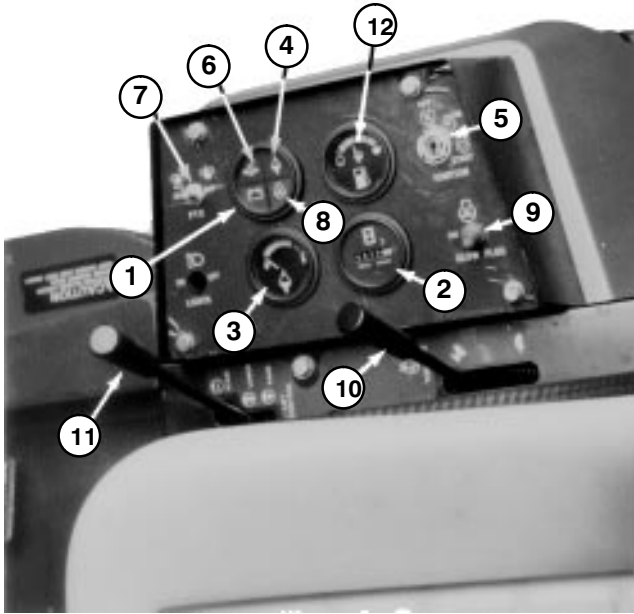

Figure 24
Amp Light (Fig. 24) — The amp light should be off when engine is running. If it is on, the charging system should be checked and repaired if necessary.
Hour Meter (Fig. 24) — Accumulated engine operating time registers on the hour meter.
Temperature Gauge and High Temperature Light (Fig. 24) — The coolant temperature gauge registers the coolant temperature in the system. If the temperature gets too high the engine will automatically shut off and the High Temperature Shutoff Light will light. When this happens, turn the ignition key off, check radiator for debris, check the fan belt and check the expansion tank for proper coolant level. The high temperature shutoff will automatically reset when the coolant temperature has reached a safe level.
Low Oil Pressure Light (Fig. 24) — If engine oil pressure falls below a safe level, the light glows. Stop engine and repair before resuming operation.
PTO Switch (Fig. 24) — Pull up on sleeve on toggle switch handle and move handle to ON to ENGAGE electric PTO clutch. Pull up on sleeve and move handle to OFF to DISENGAGE electric PTO clutch. The only time the PTO switch should be in the ENGAGE position is when the implement is down in operating position and ready to begin operation.
Ignition Key Switch (Fig. 24) — The ignition switch, which is used to start and stop the engine, has three
Glow Plug Switch and Indicator (Fig. 24) — Use to preheat engine cylinders prior to cold engine starting procedures — cylinders are preheated automatically during warm engine start operation. For cold starting, push switch lever upward and hold while watching indicator. Indicator will glow orange when the glow plugs are activated. Length of time necessary to preheat cylinders should be determined by atmospheric temperature; refer to Starting /Stopping Engine procedure.
Throttle (Fig. 24) — Throttle is used to operate engine at various speeds. Moving throttle forward increases engine speed — FAST; rearward decreases engine speed — SLOW. The throttle controls the speed of the cutter blades and, in conjunction with traction pedal, controls ground speed of the traction unit.
Hydraulic Lift Lever (Fig. 24) — The hydraulic lift lever has three positions: FLOAT, TRANSPORT and RAISE. To lower cutting unit to the ground, move lift lever forward into notch in seat platform — FLOAT. The FLOAT position is used for mowing and when machine is not in operation. To raise cutting unit, pull lift lever rearward to the RAISE position. After cutting unit is raised, allow lift lever to move to the TRANSPORT position. Cutting unit must be raised when driving from one work area to another.
1. Ensure parking brake is set, PTO switch is in OFF position and lift lever is in TRANSPORT or FLOAT position (Fig. 24). Remove foot from traction pedal and insure it is in neutral.
2. Move throttle control (Fig. 24) to full FAST position.
3. When temperature is below 15°C (60°F), push glow plug switch to ON position (Fig. 24) and hold for suggested interval.
4. Turn key in ignition switch to START position (Fig. 24). Release key immediately when engine starts and allow it to return to RUN position. Move throttle control to SLOW position.